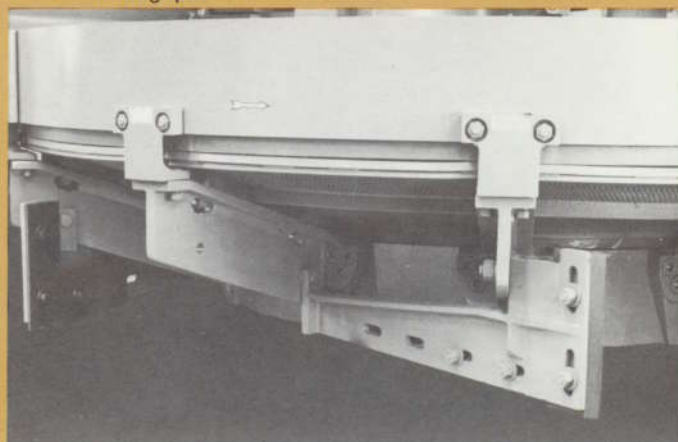

Fig. 9 Standard Arrangement—Rotating Rim
**PAN:** (Figs. 9, 10, 11 & 12) Main casting is DUCTILE (SG) iron with twelve Pan Arms of same material bolted on to support Screen Plates and Pan Rim (if rotating). 28PC ALLOY Pan Rim Liner Segments protect inside of Rim from wear.